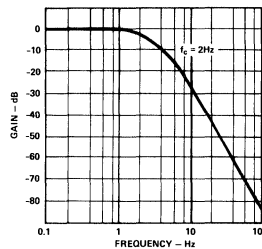

Figure 12. Filter Amplitude Response vs. Frequency
**Low Pass Filter:** The three pole Bessel-type active filter attenuates unwanted high-frequency components of the input signal above its cutoff frequency ( $-3dB$ ) with 60dB/decade roll-off. With a 2Hz filter, attenuation of 70dB at 60Hz is obtained, settling time is 600ms to 0.1% of final value with less than 1% overshoot response to step inputs. Figure 12 shows the filter response.